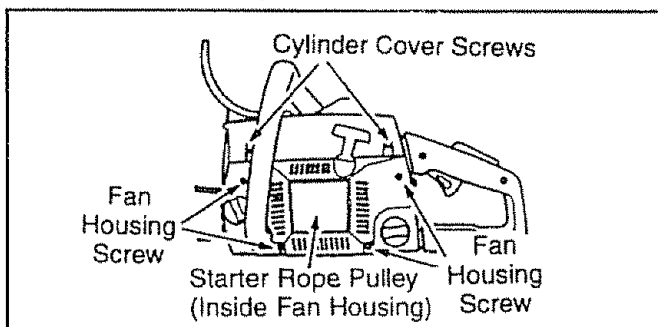

Figure 54
### STARTER ROPE REPLACEMENT (Fig. 54, 55, 56, 57 & 58)
- Reinstall the 4 fan housing screws and tighten the 2 cylinder cover screws. Figure 54.